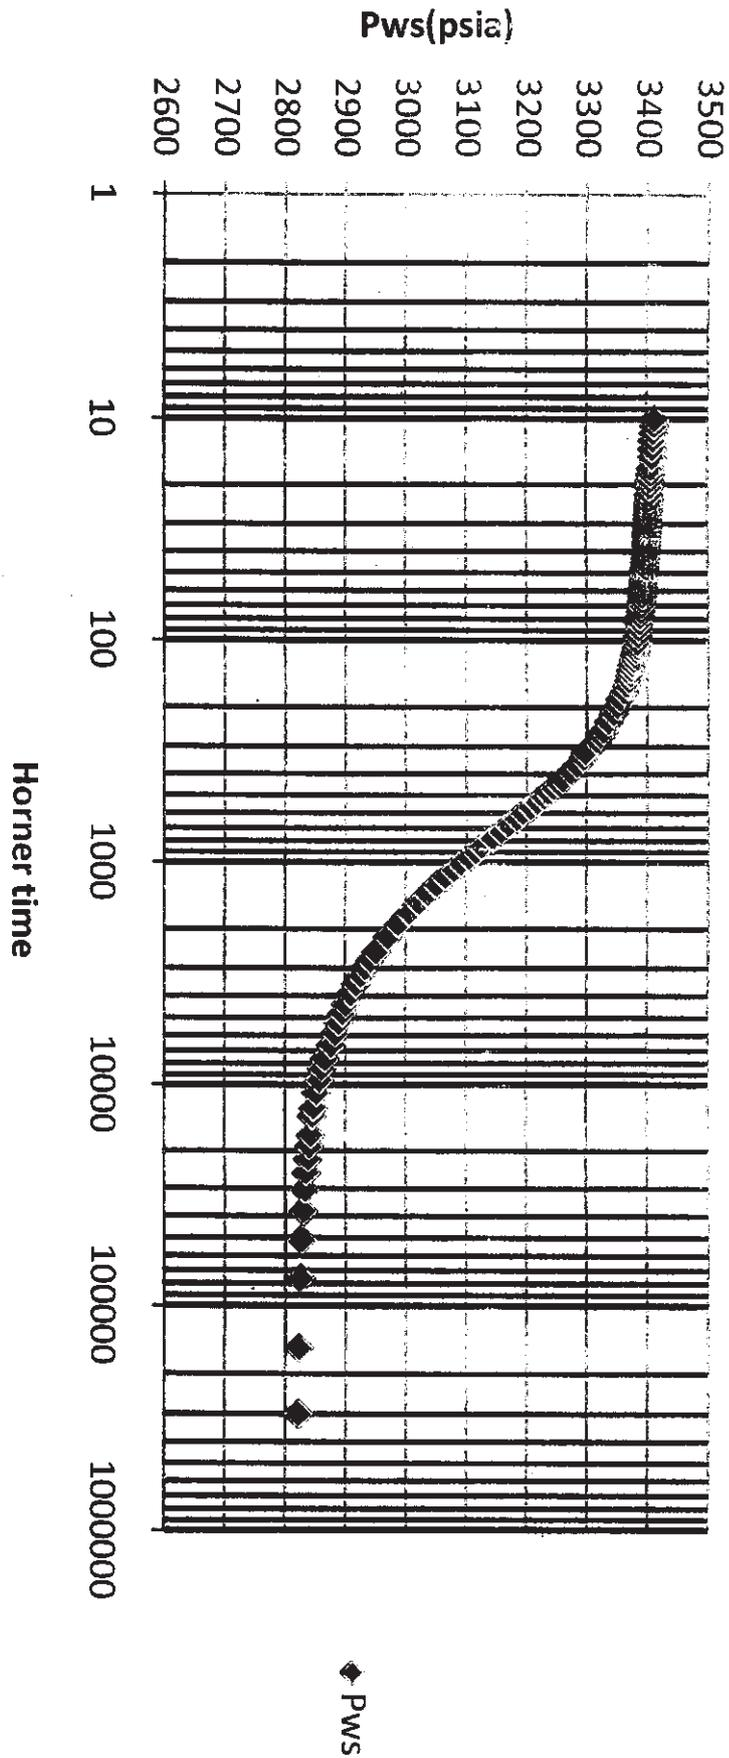

Figure 5
- 8) *If you attempt question 5, detach figure 5 and attach inside the answer booklet.*
- b) (If you attempt this question, attach Figure 5 inside the answer booklet). For the gas well test in the figure 5, find permeability and skin factor for pressure, pressure squared and pseudo pressure ( $\psi$ , PP) analysis. Show ETR, MTR, LTR clearly on graph. Data:  $q = 1100$  MSCF/D,  $t_p = 2940$  minutes,  $T_r = 248$  F, Porosity = 7.7,  $r_w = 0.2$  ft,  $c_t = 1.26E-4$ , viscosity = 0.0216 cp,  $h = 8$  ft,  $A = 320$  acre, average reservoir pressure = 3567 psi,  $z = 0.9305$ , gas gravity = 0.7,  $P_{wf} = 2292$ ,  $\psi(P_{wf}) = 3460 \times 10^5$ . [10]